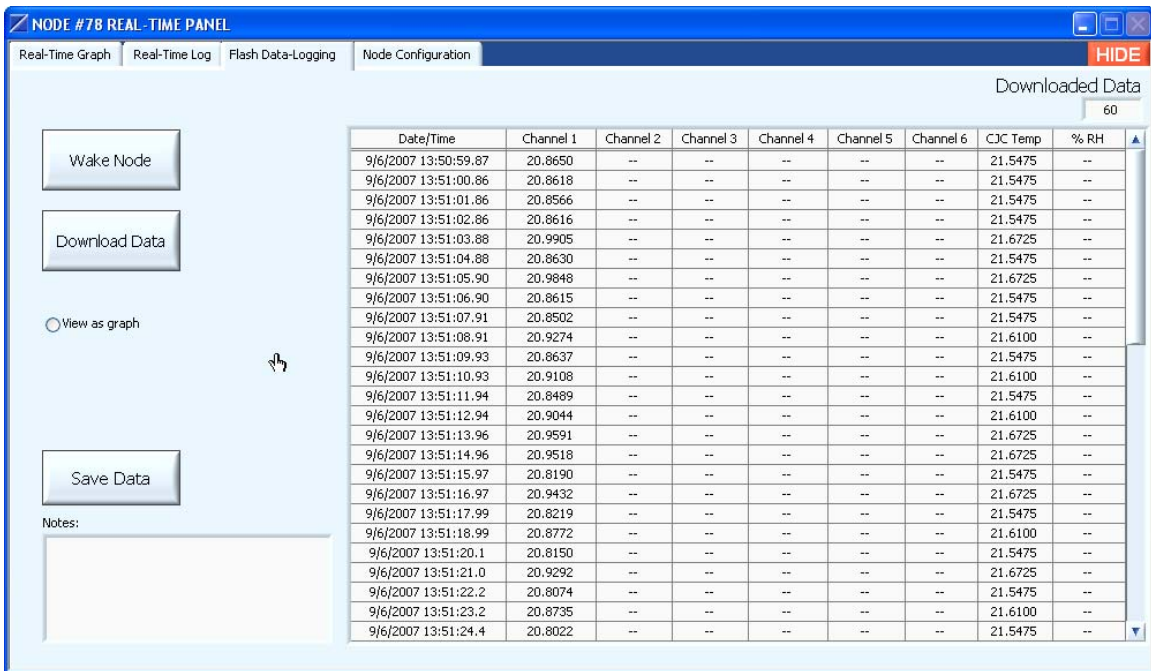

Figure 10
- Click the Download Data button and the TC-Link® will download the data stored in its flash memory and display it on the grid. A progress bar will signal progress and completion. See Figure 10.